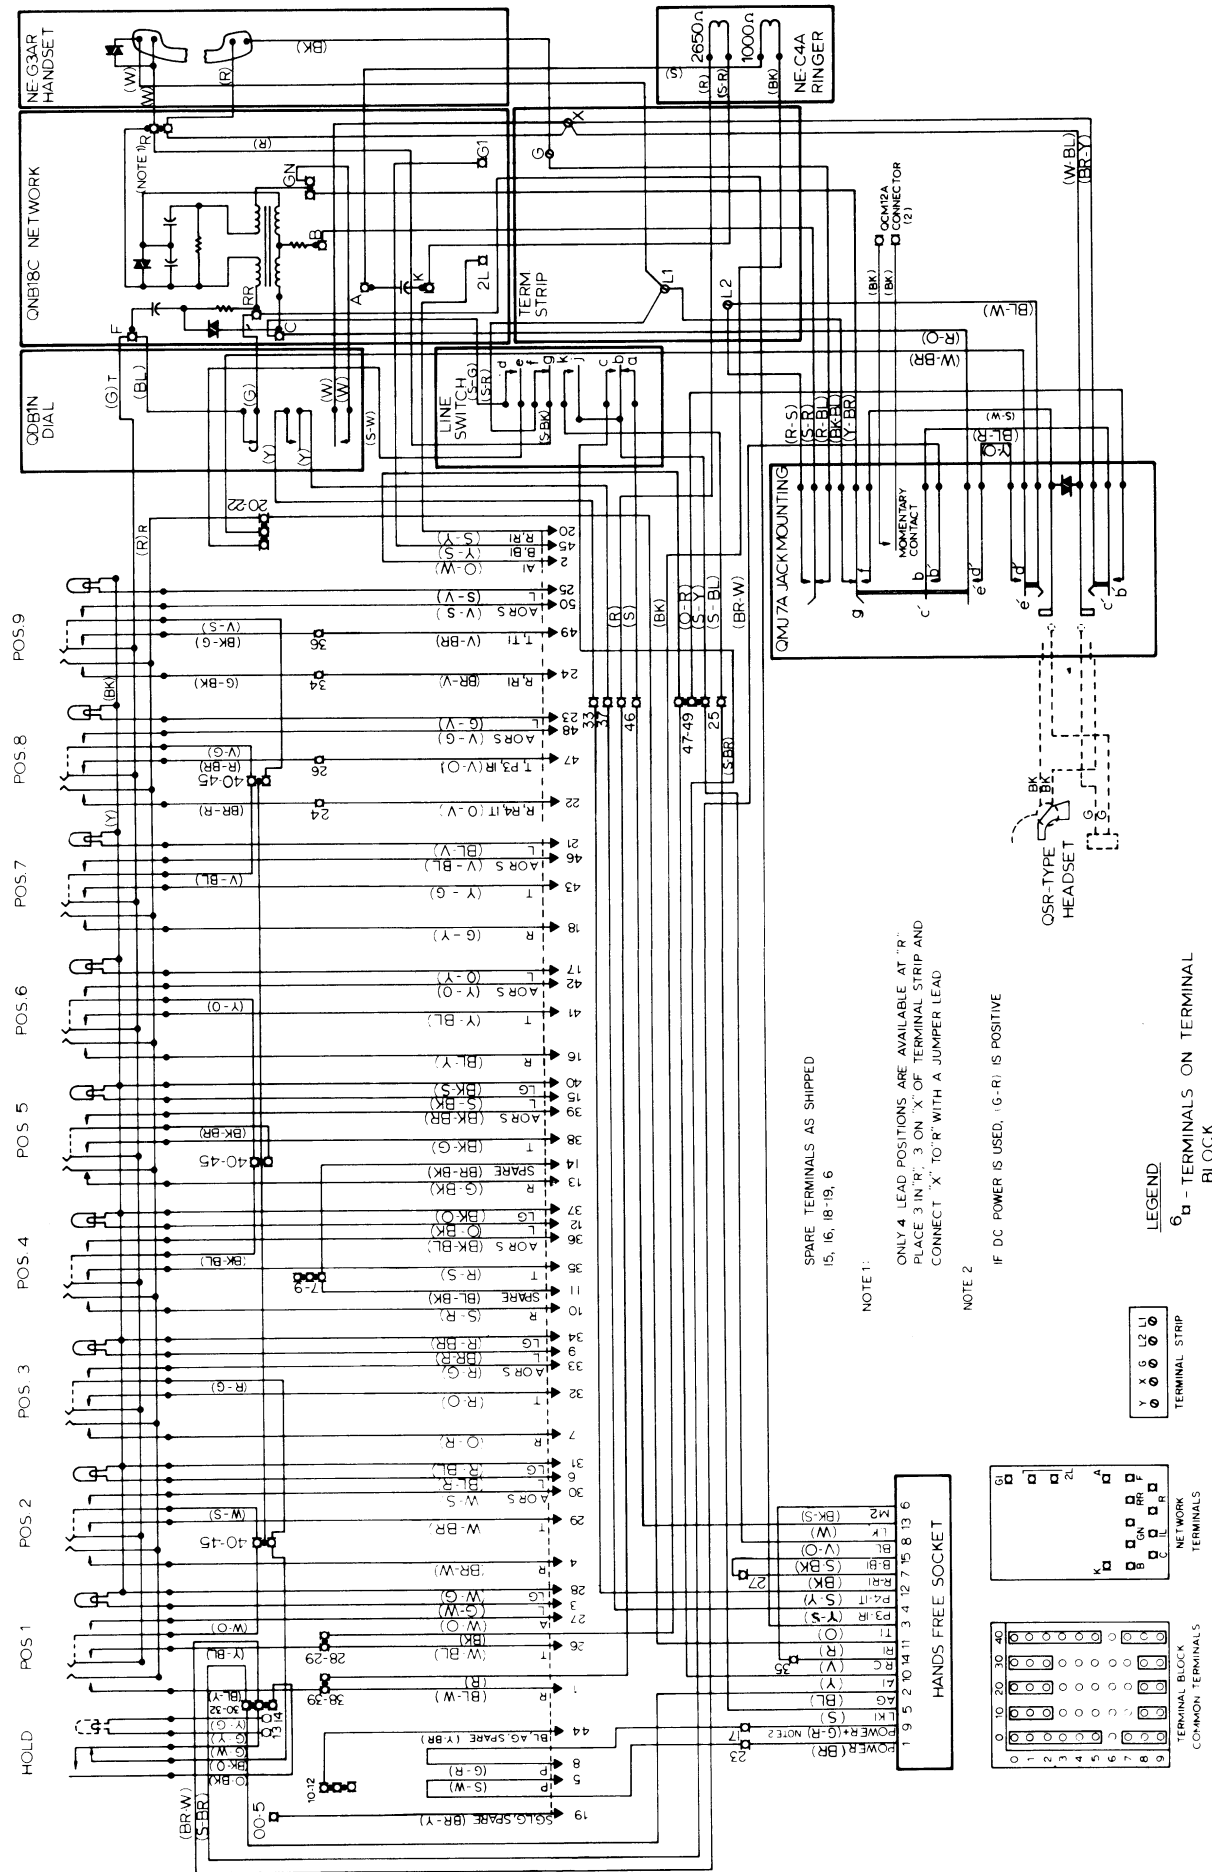

Fig. 5 — Schematic Diagram of QSK200B Key Telephone Set
3.04 Connection information for the QSK200B and QSK2200B telephone sets is shown in Fig. 5 and 6. See Table A for cord assignment information. See Tables B through J for wiring of options.